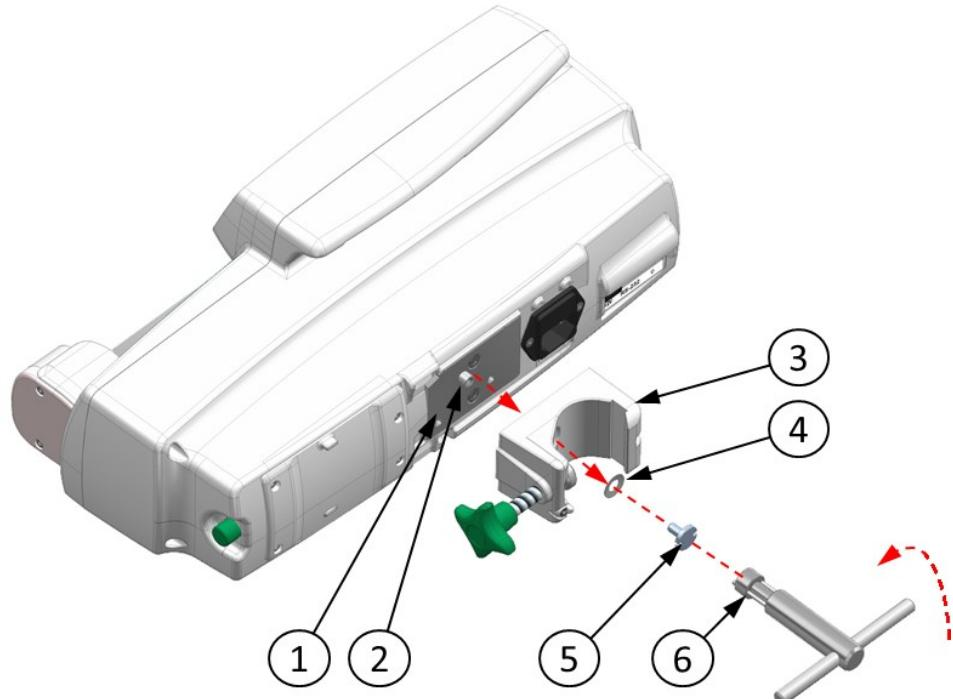

Fig. 69 Rotatable pole clamp removal/installation
1. Using a wrench TA-3 (6) unscrew the **Pole clamp screw** (5) as shown in Fig. 69.
2. Remove part **Rotatable pole clamp** (3) from part **Clamp base** (1) in the direction indicated by the red arrows in Fig. 69.
4. Install the part **Rotatable pole clamp (3)** on the part **Clamp base (1)** against the direction marked with the **red arrows** shown in **Fig. 69**.
5. Using the wrench **TA-3 (6)** screw in the **Pole clamp screw (5)** together with **Plate spring (4)** by torque that allows it to be rotated comfortably (**Fig. 69**).